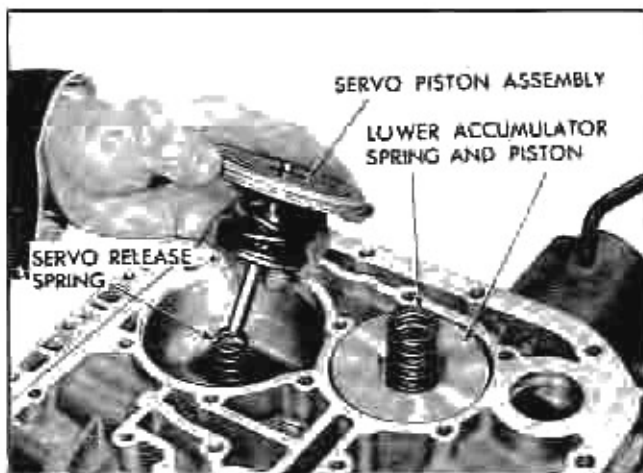

Fig. 128 Installing Servo Piston
7. Install lower accumulator spring into spring pocket as in Fig. 128.
9. Install servo piston assembly into case, stem first (Fig. 128).